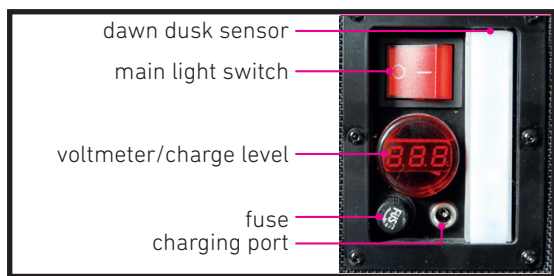

Fig. 7
1. The control panel is inside the product (Fig. 7).